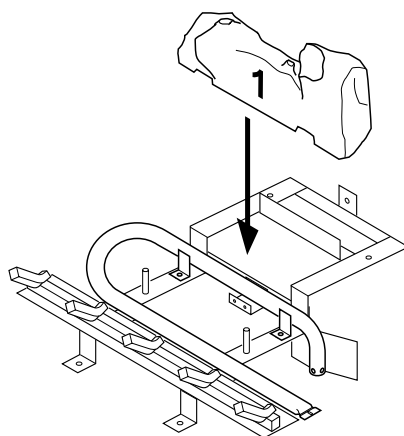

Figure 50 - Installing Log No. 1
1. Place log #1 (back log) on top of grate. Make sure the notches in the bottom of the log fit over the grate (see Figure 50).